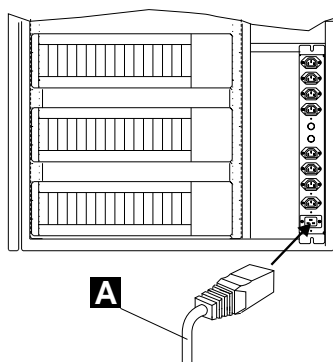

Figure 1-89. Power Cord for Power Strip
20. ____ If it is not already plugged, connect the main power cord **A** coming from the ac outlet distribution box to the **220V** customer's **receptacle** (refer to Figure 1-89).